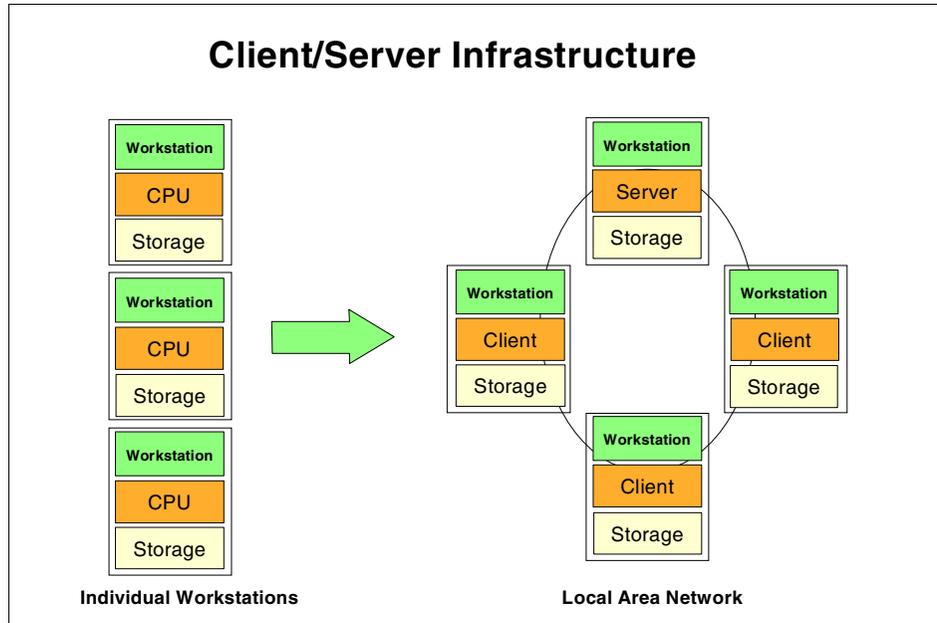

Figure 1. Typical distributed systems or client server infrastructure
Storage, for the most part, is directly connected by a dedicated channel to the server it supports. Frequently the servers are interconnected using local area networks (LAN) and wide area networks (WAN), to communicate and exchange data. This is illustrated in Figure 1. The amount of disk storage capacity attached to such systems has grown exponentially in recent years. It is commonplace for a desktop Personal Computer (PC) today to have 5 gigabytes (GB) or 10 gigabytes, and single disk drives with up to 75 GB are available. There has been a move to disk arrays, comprising a number of disk drives. The arrays may be “just a bunch of disks” (JBOD), or various implementations of redundant arrays of independent disks (RAID). The capacity of such arrays may be measured in tens or hundreds of GBs, but I/O bandwidth has not kept pace with the rapid growth in processor speeds and disk capacities.